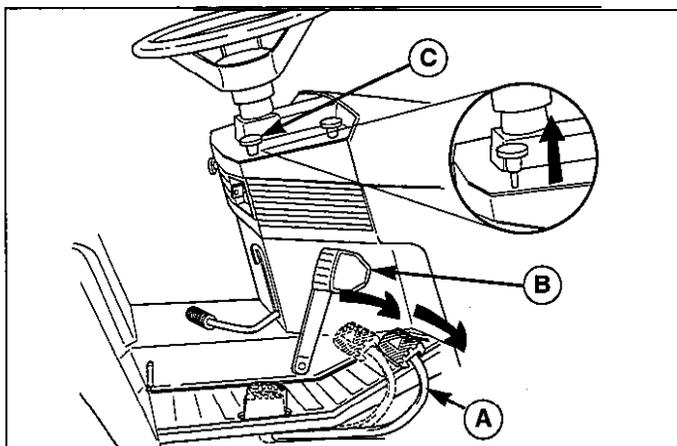

Figure 3. Cruise Control Function
Applying the Cruise Control - See Figure 3. To apply the cruise control, depress the forward ground speed pedal (A) until the desired speed is achieved. Then pull up on the parking brake/cruise control knob (B) and release the forward ground speed pedal (A).
Releasing the Cruise Control - See Figure 3. The cruise control can be released three ways: